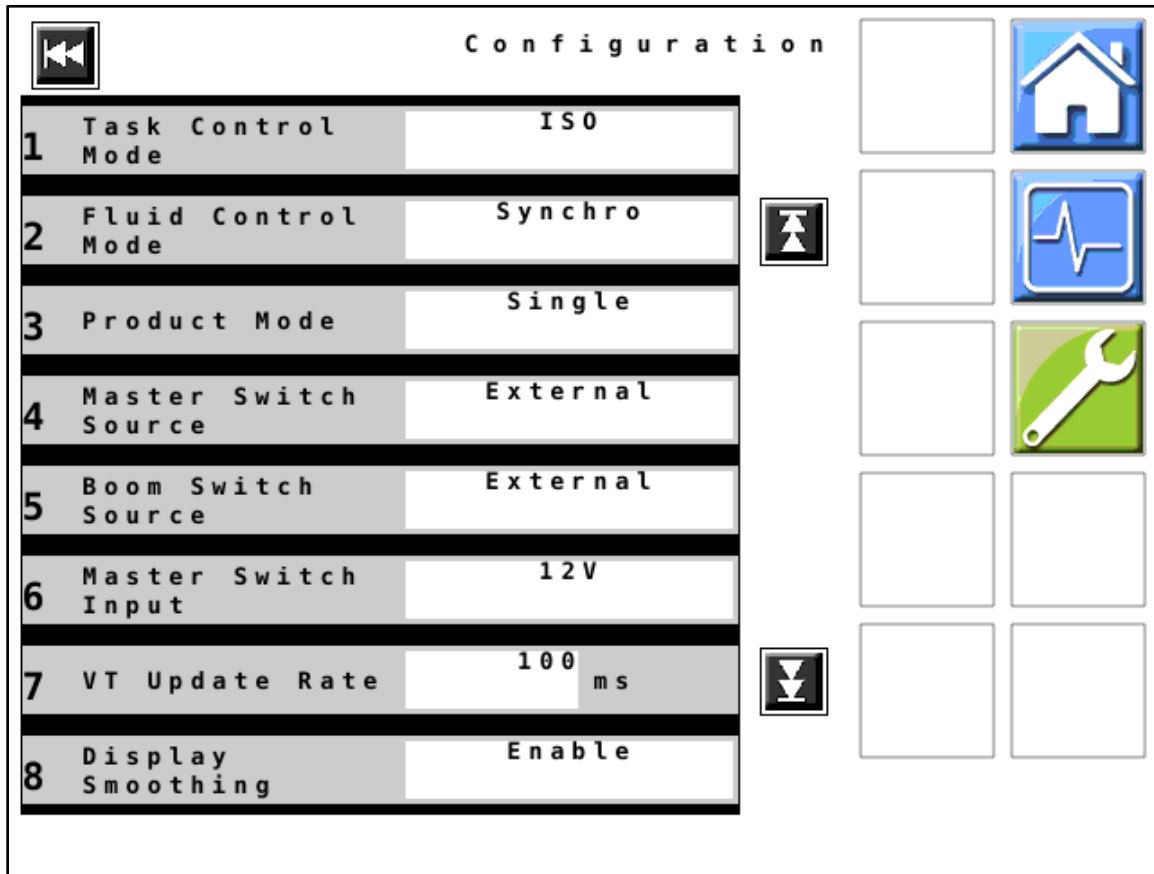

Figure 6 — Configurations Page 1
Note: ANYTIME you change settings, you MUST tap the **Settings** icon  to go into the **Settings** menu and select **Initial Setup > Configurations > Software Restart** to save settings. If the unit is turned off or loses battery power before this is done, the new settings will not be saved. Refer to *Figure 6* for the location of this function.
13. *Figure 6:* Verify that the data displayed in these fields on your unit correctly matches your machine's specifications.